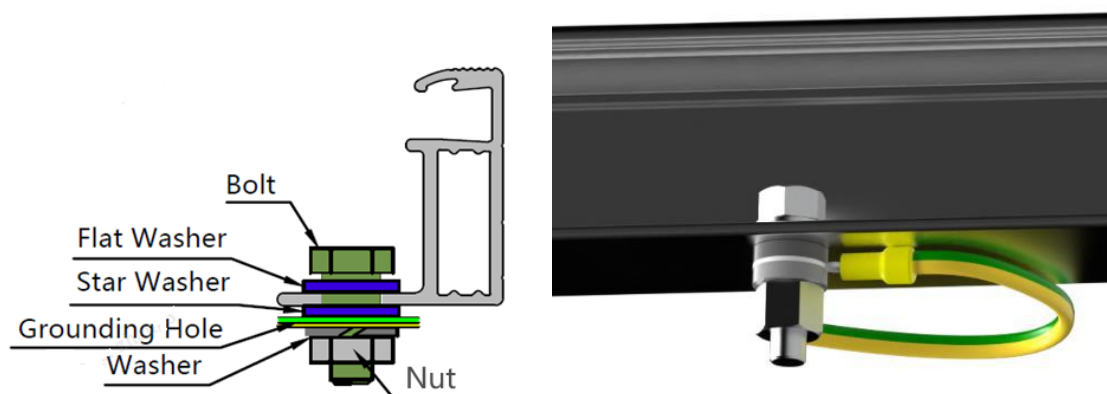

Figure 9. Grounding hole with bolts
- There are grounding holes with a diameter of 4mm on the long side of the back frame of the module, by the edge part. The grounding hole on the frame is marked with typical grounding symbol () according to IEC 61730-1:2023 standard. These holes can only be used for grounding with bolts, so cannot be used for module installation. This method includes bolt, flat washer, star washer, washer and nut (see Figure 9) . The bolts should be tightened when grounding is installed. The frame of the module must not be punched with additional holes and no damage should be done to the module frame or the grounding wire.